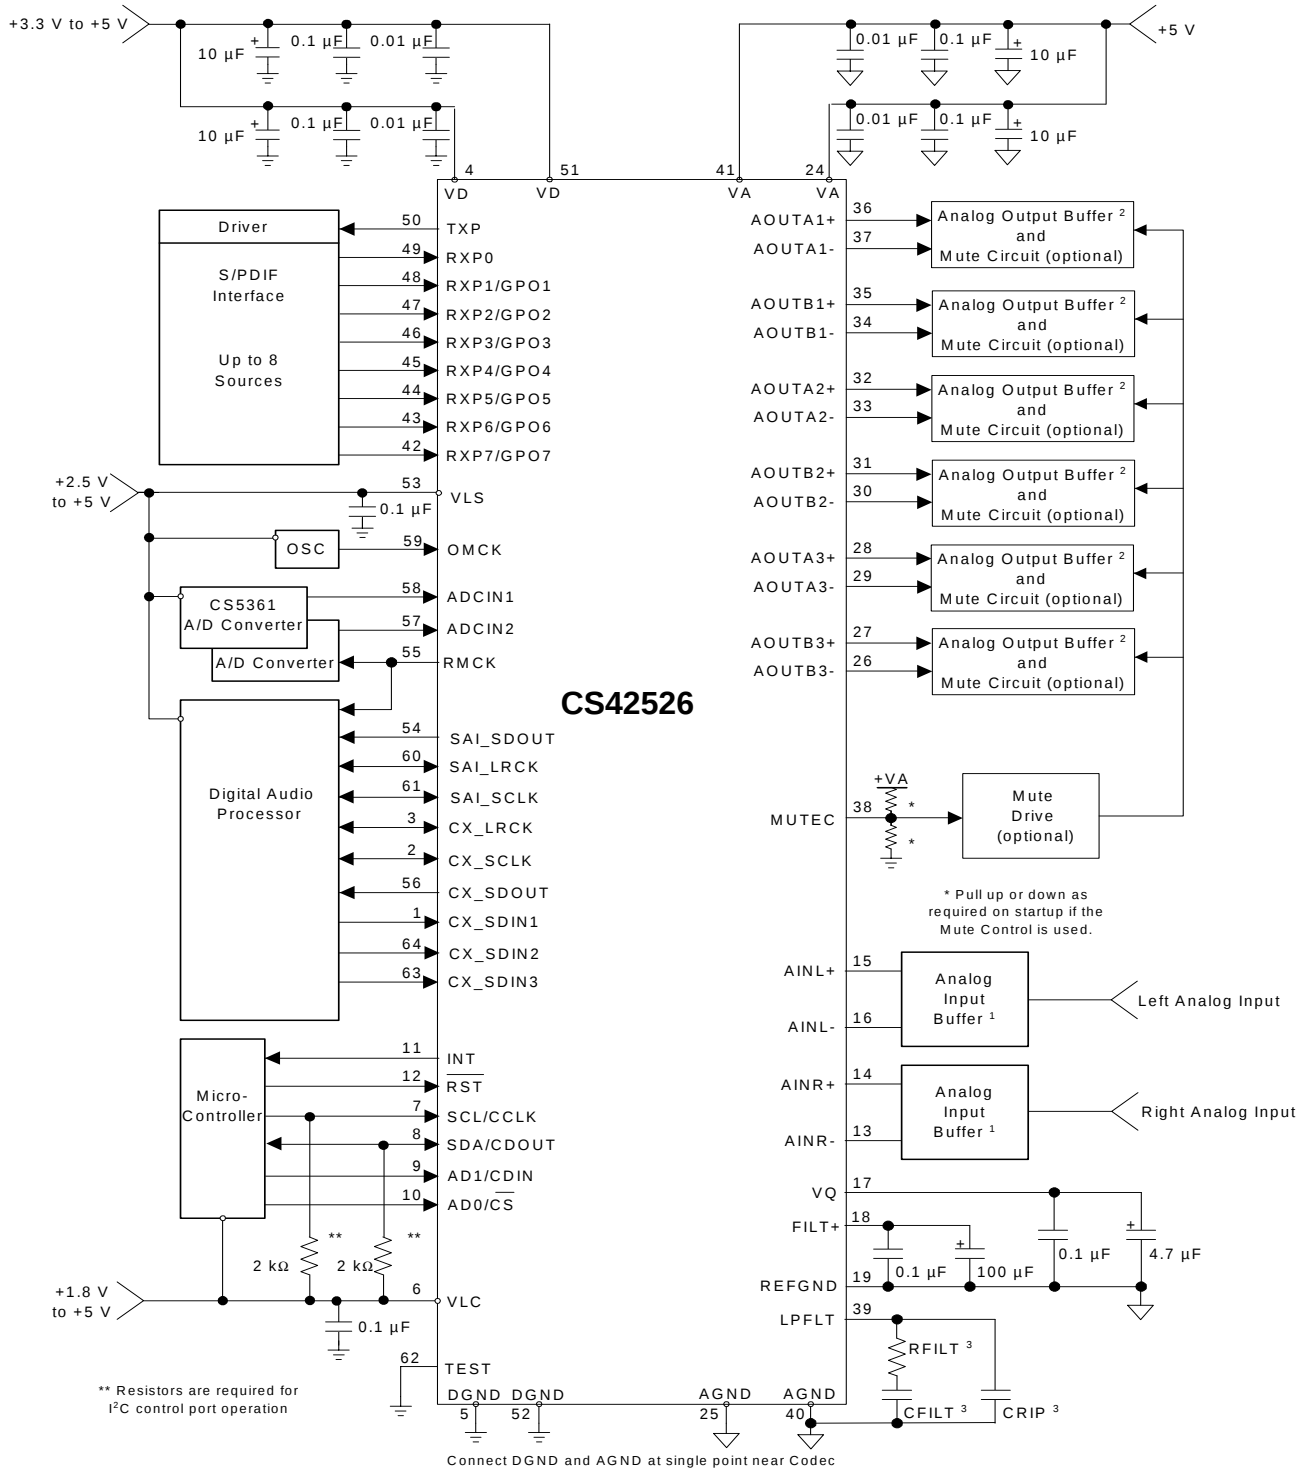

Figure 5. Typical Connection Diagram
26. Valid with the recommended capacitor values on FILT+ and V_Q as shown in Figure 5.